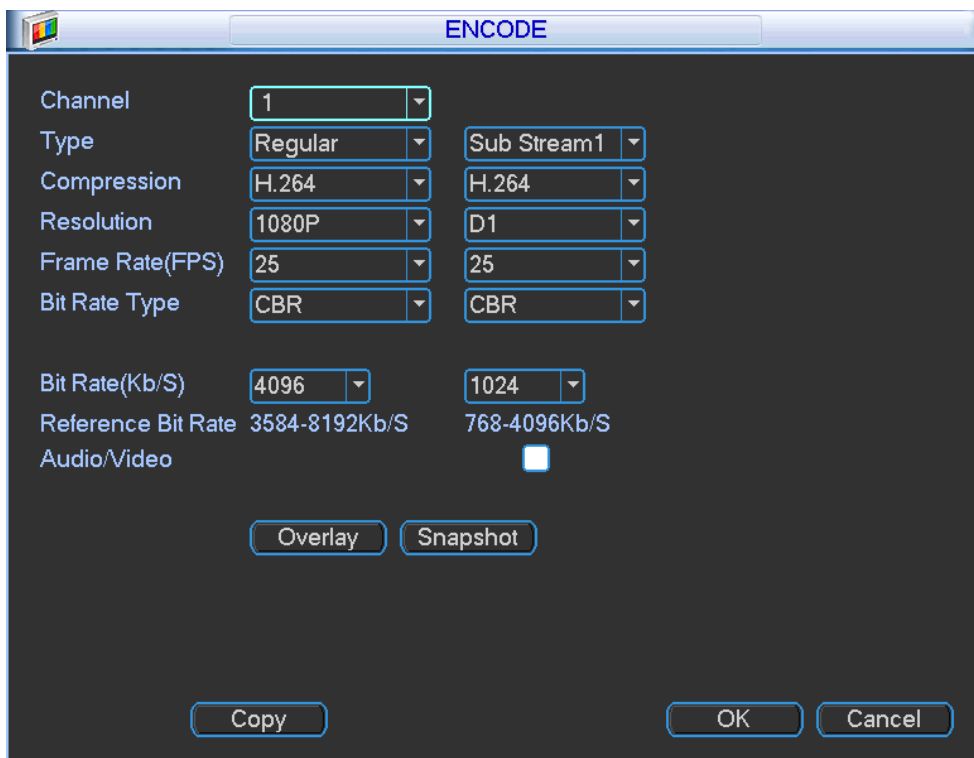
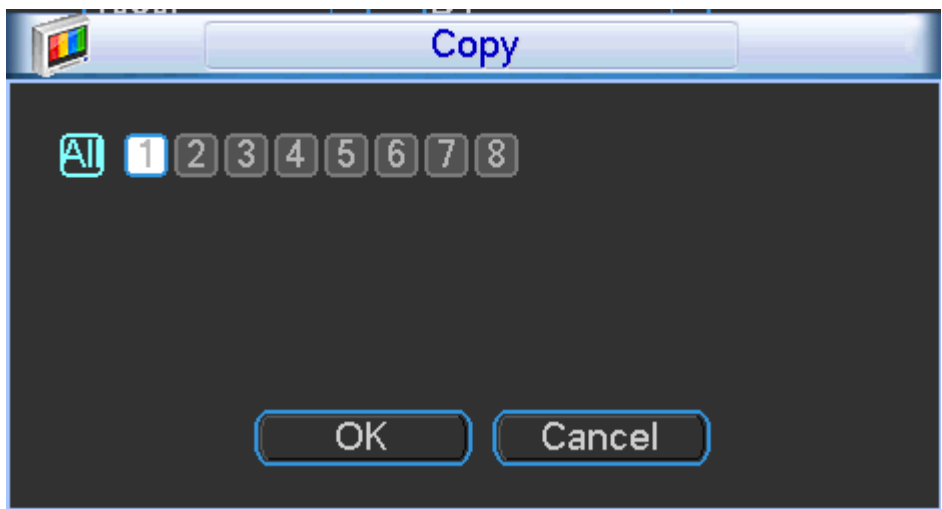

Figure 4-41
Figure 4-45
Encode setting includes the following items. See Figure 4-41.
- Copy: After you complete the setup, you can click Copy button to copy current setup to other channel(s). You can see an interface is shown as in Figure 4-45. You can see current channel number is grey. Please check the number to select the channel or you can check the box ALL. Please click the OK button in Figure 4-45 and Figure 4-41 respectively to complete the setup.